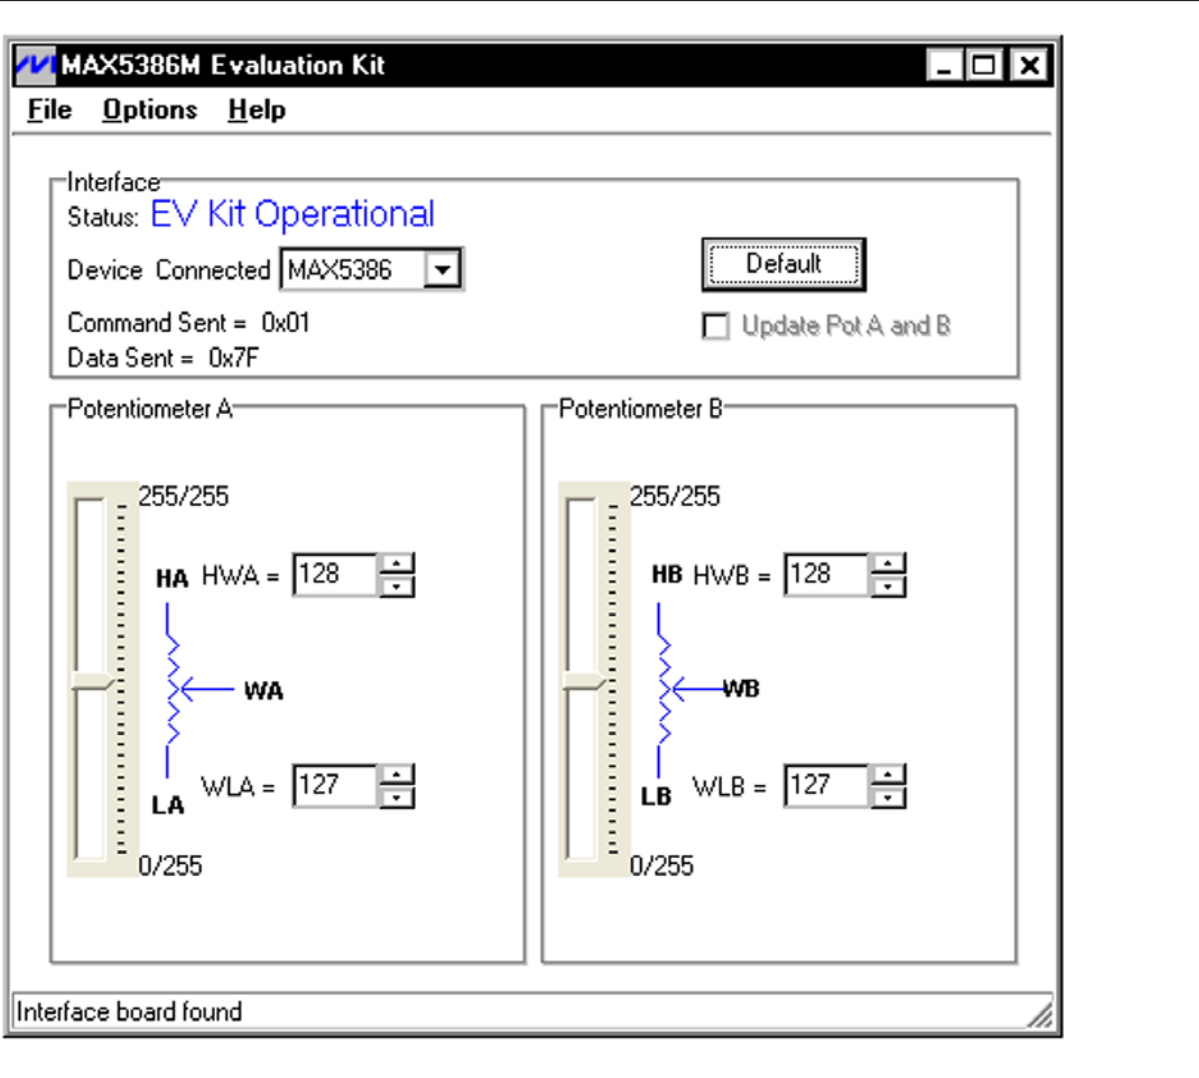
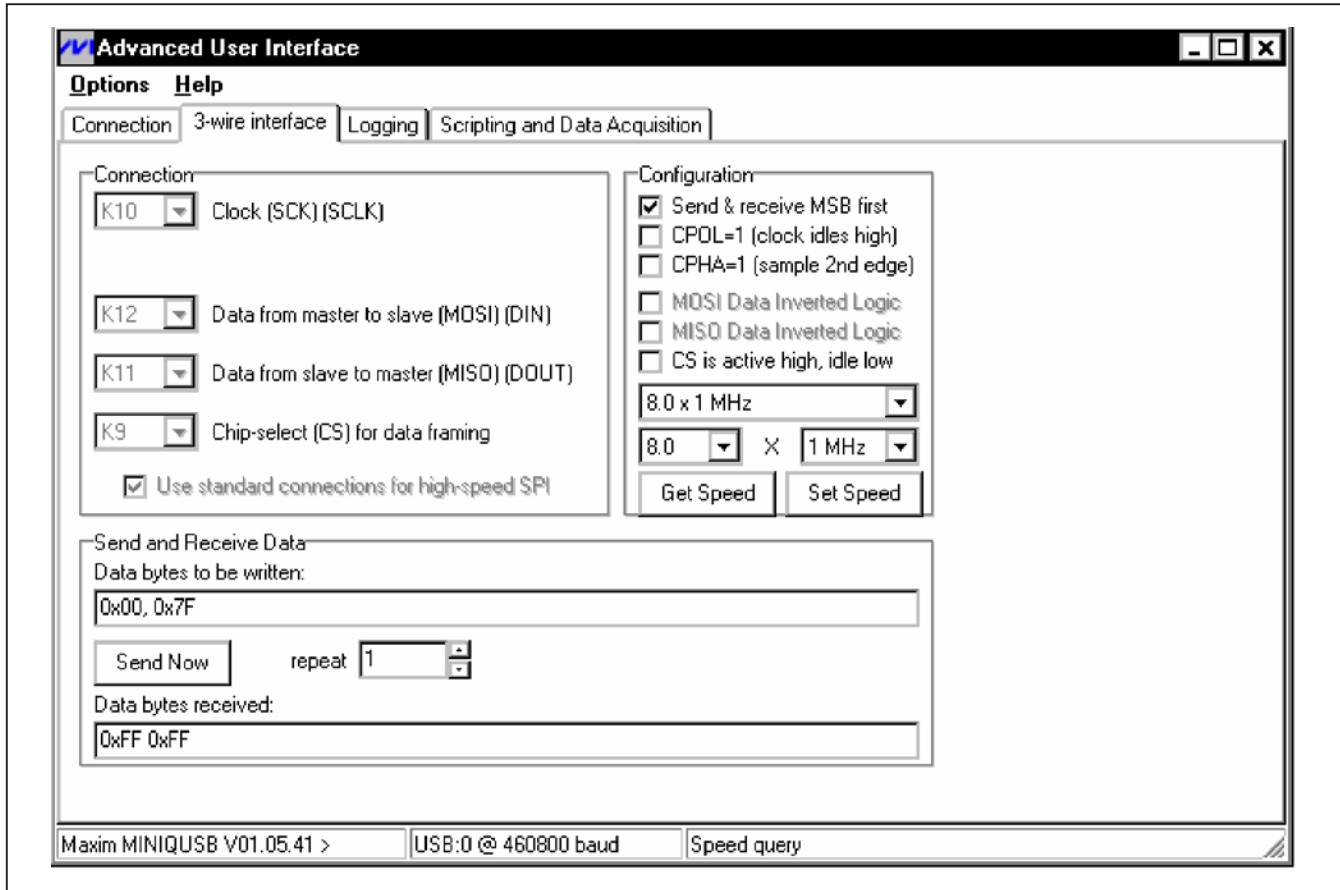

Figure 1. MAX5386M Evaluation Kit Software Main Window
Figure 3. Simple Low-Level 3-Wire Interface
- 10) Using the **Device Connected** combo box, select MAX5386 from the list and then press the **Default** button. The EV kit software main window appears, as shown in Figure 1.
The MAX5386M EV kit software GUI shown in Figure 1 is a Windows program that provides a convenient means to control the MAX5386M dual potentiometer. Use the mouse or press the Tab key to navigate through the GUI controls. The correct SPI write operations are generated to update the MAX5386M internal memory registers when any of these controls are executed.
There are two methods for communicating with the EV kit, through the normal user-interface panel (Figure 1) or through the SPI commands available by selecting the **3-Wire Interface** (Figure 3) utility from the main program's **Options | Advanced Users Interface** menu bar. A window is displayed that allows SPI send/receive data operations.
On the **3-wire interface** tab, the **Connection** group box defines the hardware connections of the interface. For the EV kit, **K10** is selected from the **Clock (SCK)(SCLK)** drop-down list, **K12** from the **Data from master to slave (MOSI)(DIN)** drop-down list is disabled, **K11** from the **Data from slave to master (MISO)(DOUT)** drop-down list, **K9** from the **Chip-select (CS) for data framing** drop-down list, and **Use standard connections for high-speed SPI** checkbox is checked (see Figure 3).
The **Configuration** group box allows the user to configure the logic level and data rate. For the EV kit, check the **Send & Receive MSB first** checkbox and verify that the **CPOL=1(clock idle high)** and **CPHA=1(sample 2nd edge)** checkboxes are unchecked (see Figure 3).
Note: The SPI dialog boxes accept numeric data in hexadecimal format. Hexadecimal numbers must be prefixed by \$ or 0x. Figure 3 shows a simple SPI write-byte operation using the included 3-wire interface diagnostics tool. In this example, the software is sending command 0x00 (write to potentiometer A) and data 0x7F. The data sequence sets the MAX5386M wiper position to 127.